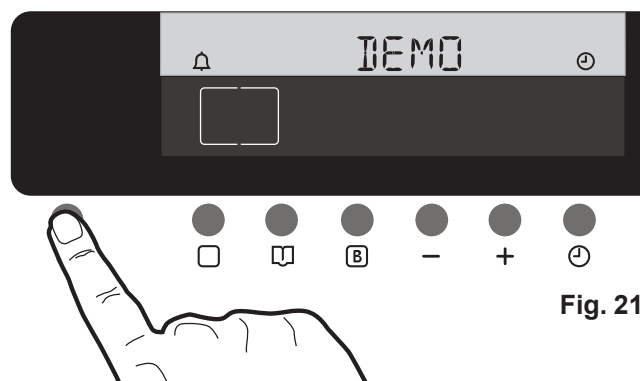

Fig. 21
2. When you press button **⏻** to switch on the oven, the message "DEMO" appears on the upper section of the display (Fig. 21). You can then select any cooking function, but the oven will not heat up. The thermometer symbol will come on , but it will not flash nor rise.